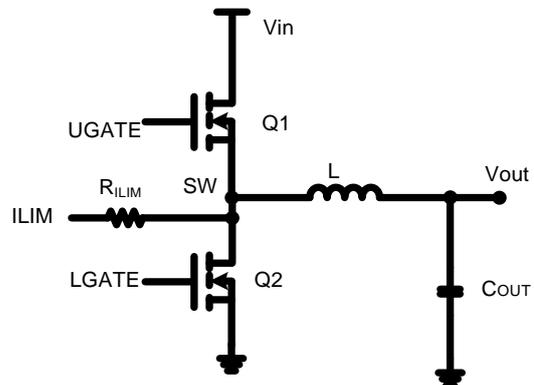
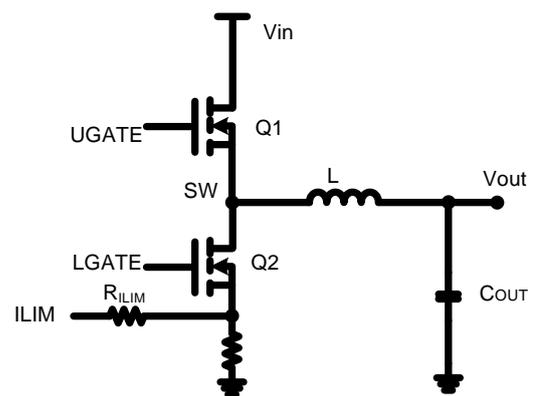

Figure15. MOSFET $R_{DS(ON)}$ Current Sensing
Figure16. Shunt Resistor Current Sensing
current drops below the valley current limit can the high-side MOSFET be turned on. To provide both good accuracy and cost effective solution, the JWH6344 supports temperature compensated MOSFET $R_{DS(ON)}$ sensing mode and shunt resistor sensing mode, and it detects the appropriate mode at start-up and sets the source current amplitude and temperature coefficient (TC) accordingly. Figure15 portrays the $R_{DS(ON)}$ sensing mode which resistor R_{ILIM} is tied to SW to use the $R_{DS(ON)}$ of the low-side MOSFET as a sensing element (termed $R_{DS(ON)}$ mode) and Figure16 shows the shunt resistor sensing mode which R_{ILIM} is tied to a shunt resistor connected at the source of the low-side MOSFET (termed R_{SENSE} mode).